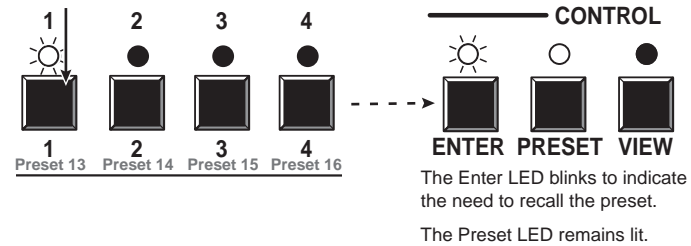

Figure 3-39 — Select the preset
3. Press and release the Output 1 button (figure 3-39).